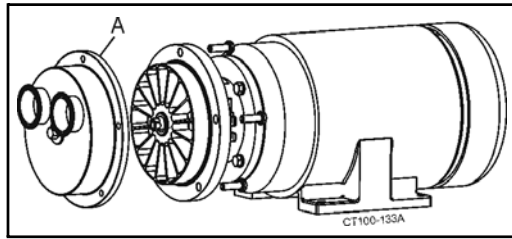

Figure 9 - Remove Cover
- Remove front cover (Figure 9, item A) from pump. Place front cover on a protected surface with ports up.